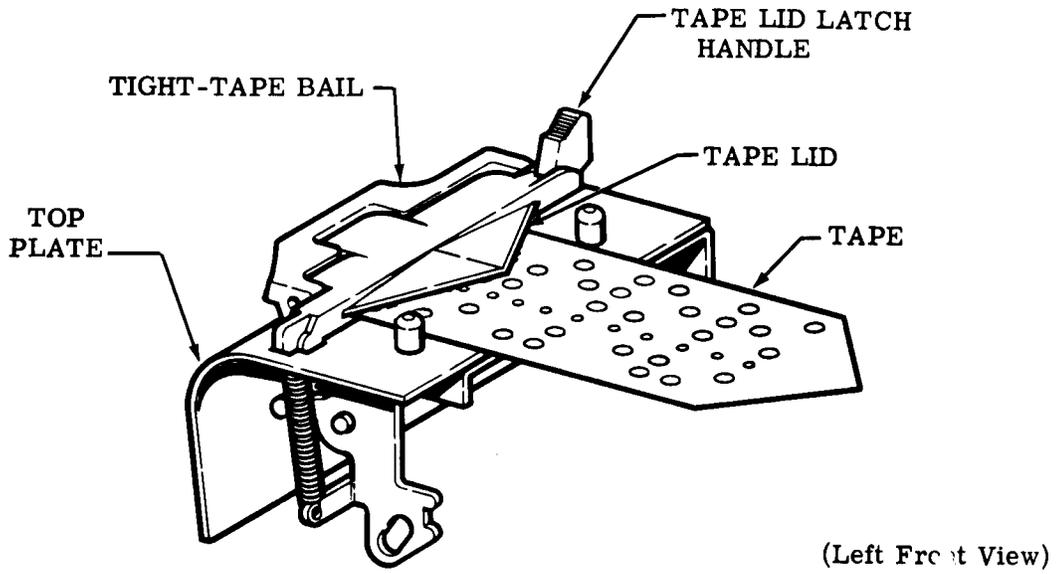

Figure 3 - Tape Lid Mechanism
3.06 When the tape lid latch handle is moved to the right, the spring biased tape lid swings open. Two locating pins guide the tape as it travels above the top plate (Figure 3).